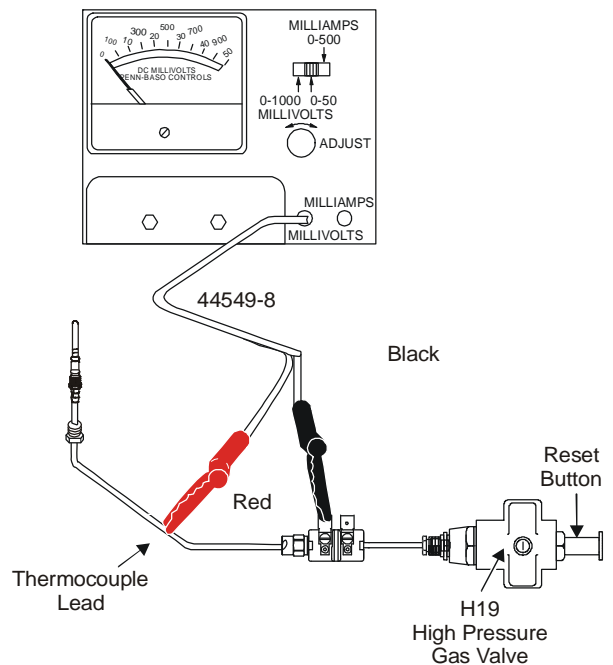

Figure 7: Closed Circuit Test Connection Diagram
5. Attach the test cable lead 44549-8. Connect the red clip to the copper tubing of the thermocouple and the black clip to the adapter block terminal (see Figure 7).